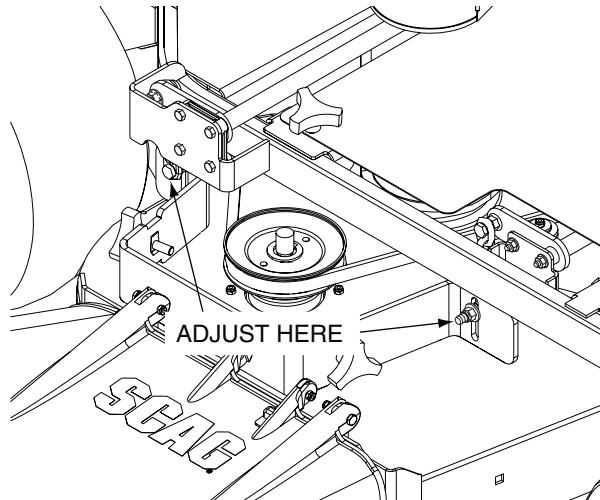

Figure 6-5. Cutter Deck Level Adjustment
1. If the cutter deck is lower on one side, loosen the elastic stop nuts securing the hanger chains to the cutter deck on the front and rear of the lower side. See Figure 6-5.
2. Move bolts on the front and rear deck hanger chains up or down in the slots until the cutter deck is level between both sides. See Figure 6-5
3. Hold the cutter deck in position and tighten the two (2) elastic stop nuts to secure the cutter deck in the proper position.